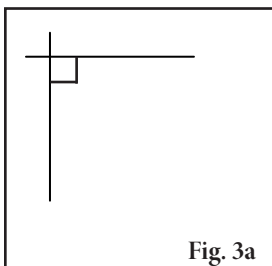
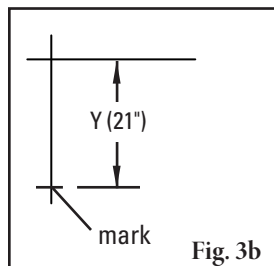
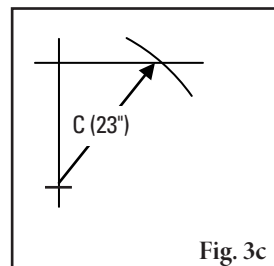

Fig. 3a
Fig. 3b
Fig. 3c
3. **Determine final dimension.** On a flat vertical surface, using a level, draw one horizontal line and one vertical line creating a right triangle (Fig 3a). Measure down from the intersection the determined “Y” dimension and mark (Fig 3b). With the tape measure starting at the modified “Y” mark, swing the tape across the “X” line and mark at the “C” dimension where it crosses the “X” line (Fig 3c). Measure from the intersection to the “C” intersection and this will be your new “X” dimension (Fig 3d).